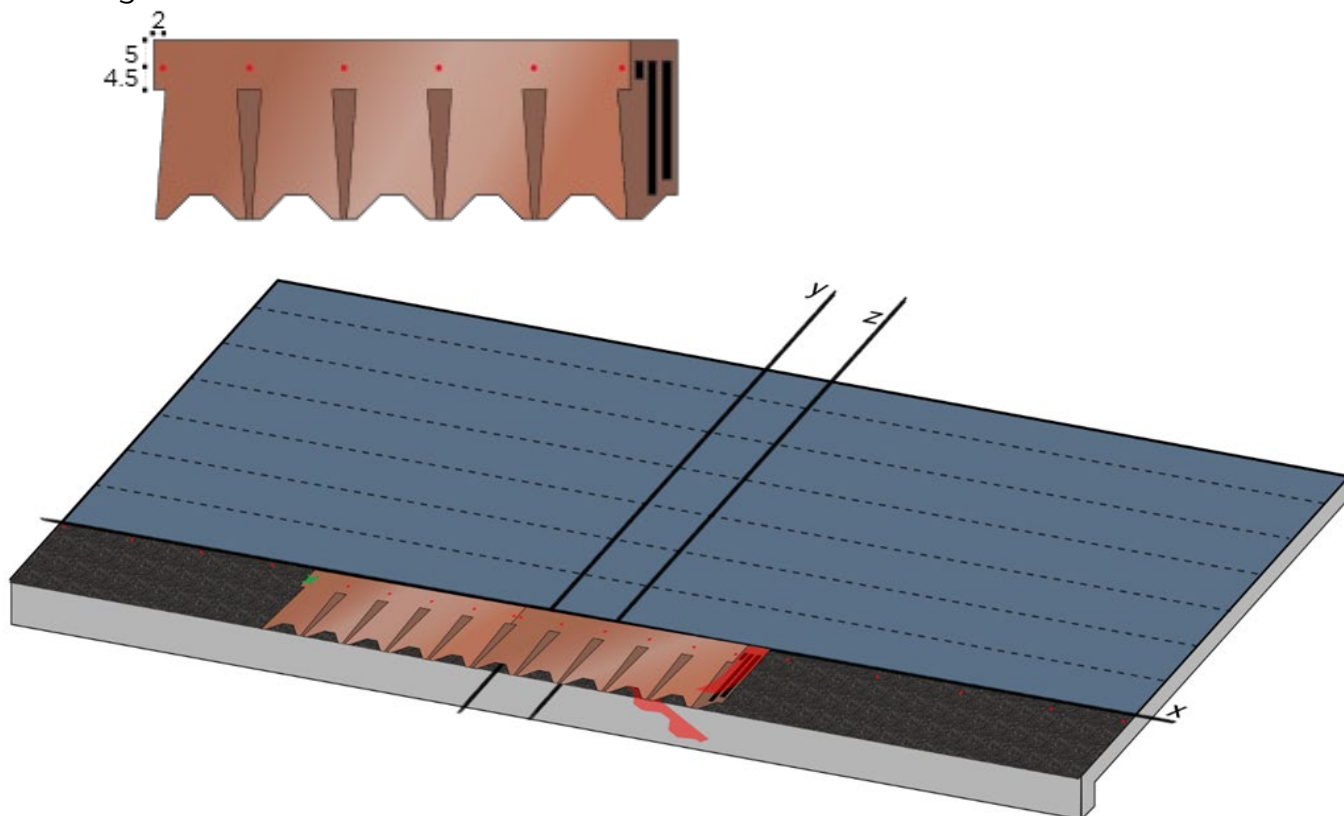

Fig. 8 - Installation of the second Master Coppo shingle
- Proceed with the installation of the second shingle towards the right: remove the protective films from the side and back of the shingle and overlap it with the lateral edge of the first shingle already installed. Nail the shingle with 6 nails, as shown in Fig. 8.